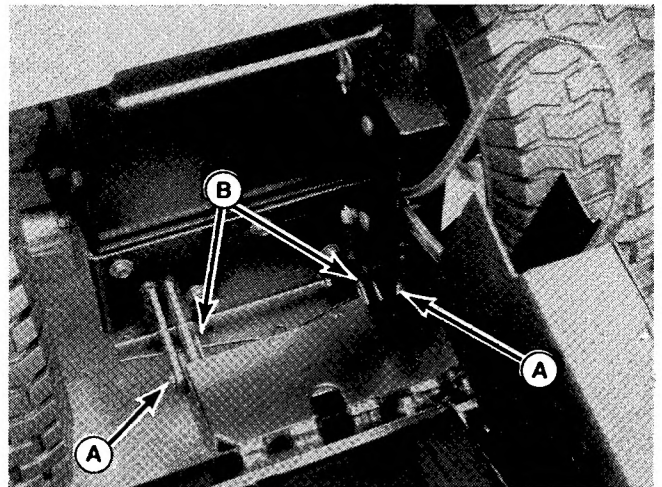

Figure 9.
8. Install tiller to hitch and insert two large (round head) clevis pins (A, Figure 9). Secure with spring clips (B).
7. Remove spring clips (B, Figure 9) and remove clevis pins (A). Tiller is disengaged from hitch and tractor can be moved forward.